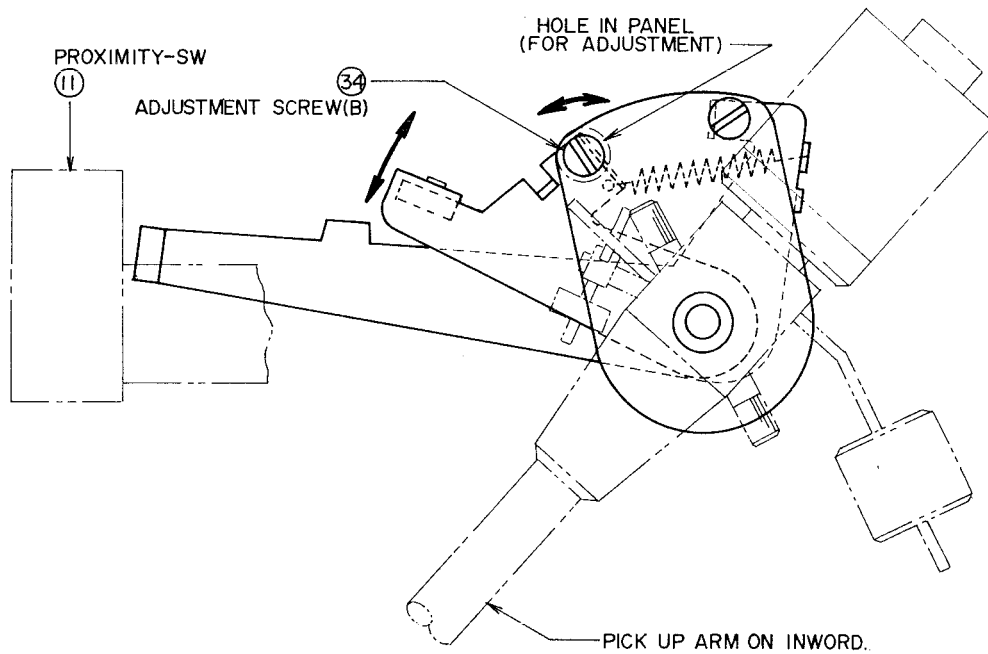

Fig. 13
When adjustment screw (B) (Fig. 13) is turned to the right through the hole in panel with a (—) screw driver, adjustment is to further inner position, and when turned to the left, adjustment is to further outer position.